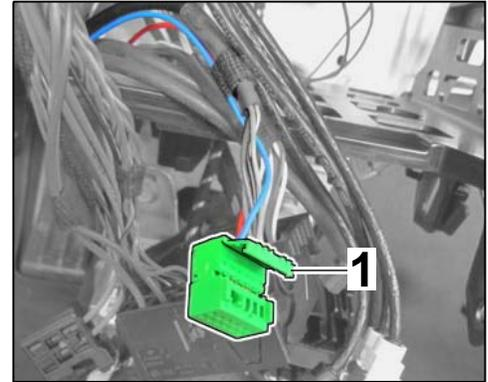

Figure 20
- 5.4.3 Open secondary lock ⇒ *Figure 20 -1-* (⇒ *Figure 20 -arrow-*).